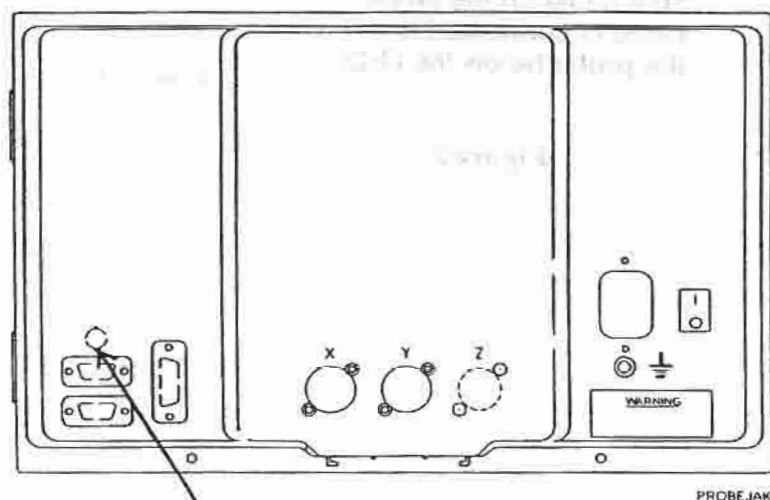

Figure 1
3. Plug the other end of the probe cable into the circular jack on the back of the DRO. (Refer to **Figure 1.**)